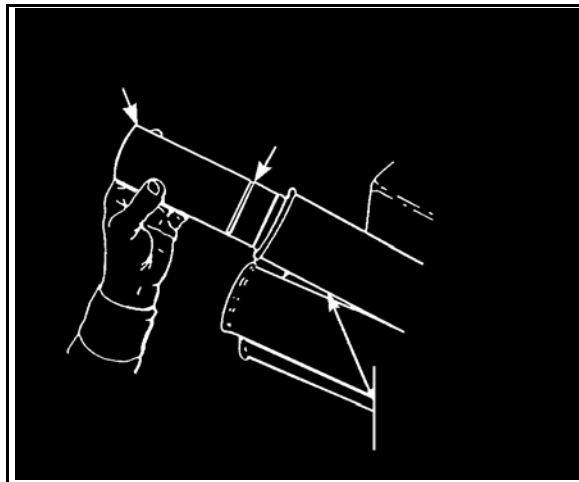

Figure 2. Smoke grenade.
5. Load eight smoke grenades in the launch tubes, four grenades on each side (Figure 2).